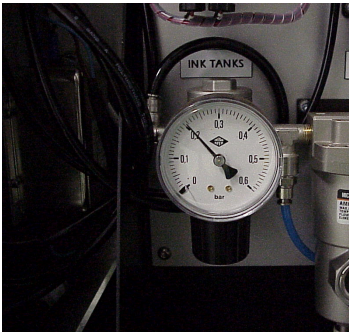

Figure 15. Air Pressure Gauge - Main Tanks
8. Check the ink tank air pressure gauge reading (see Figure 15) on the air pressure control board (situated behind the computer, at the base of the printer), and if necessary adjust to 0.2 BAR.